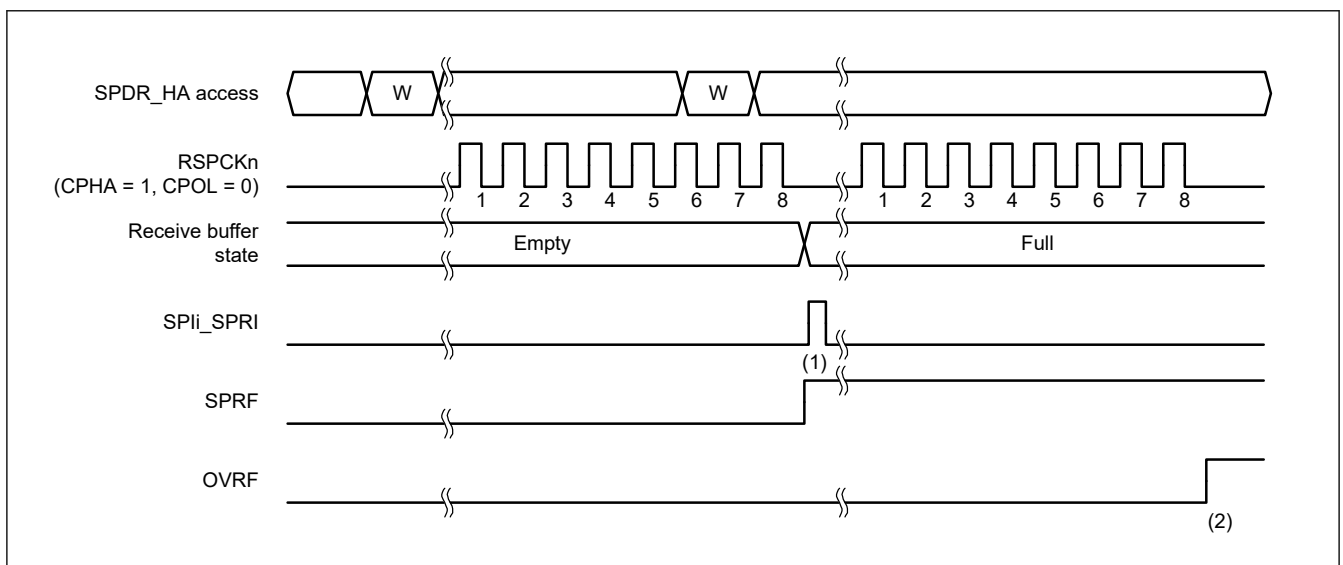
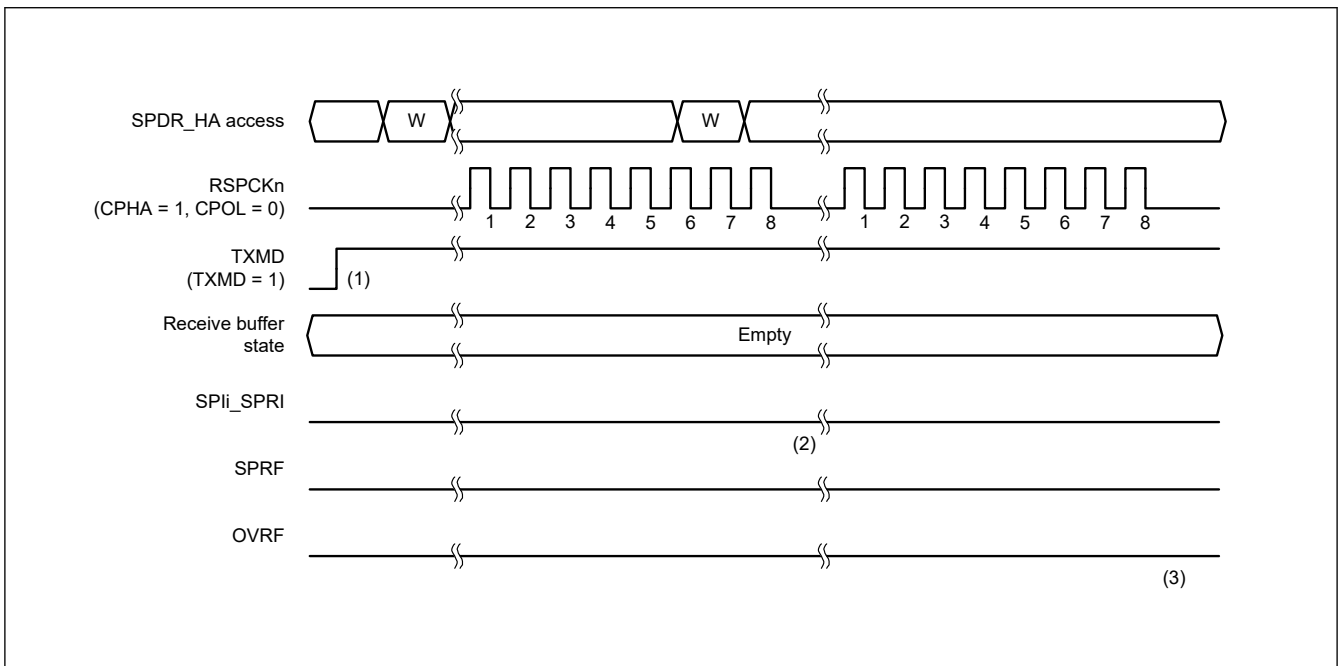

Figure 27.24 Operation example when SPCR.TXMD = 0
Figure 27.25 Operation example when SPCR.TXMD = 1
Full-duplex synchronous serial communications or transmit operations can only be selected in the Communications Operating Mode Select bit (SPCR.TXMD). The register accesses shown in Figure 27.24 and Figure 27.25 indicate the condition of access to the SPDR/SPDR_HA register, where W denotes a write cycle.
Figure 27.24 shows an example of operation when the Communications Operating Mode Select bit (SPCR.TXMD) is set to 0. In this example, the SPI performs an 8-bit serial transfer when the SPCMD0.CPHA bit is 1, and the SPCMD0.CPOL bit is 0. The numbers given for RSPCKn in the waveform represent the number of RSPCK cycles, such as the number of transferred bits.
The operation of the flags at timings (1) and (2) in Figure 27.24 is as follows:
Figure 27.25 shows an example of operation when the Communications Operating Mode Select bit (SPCR.TXMD) is set to 1. In this example, the SPI performs an 8-bit serial transfer when the SPCMD0.CPHA bit is 1, and the SPCMD0.CPOL bit is 0. The numbers given for RSPCKn in the waveform represent the number of RSPCK cycles, such as the number of transferred bits.
The operation of the flags at timings (1) to (3) in Figure 27.25 is as follows: